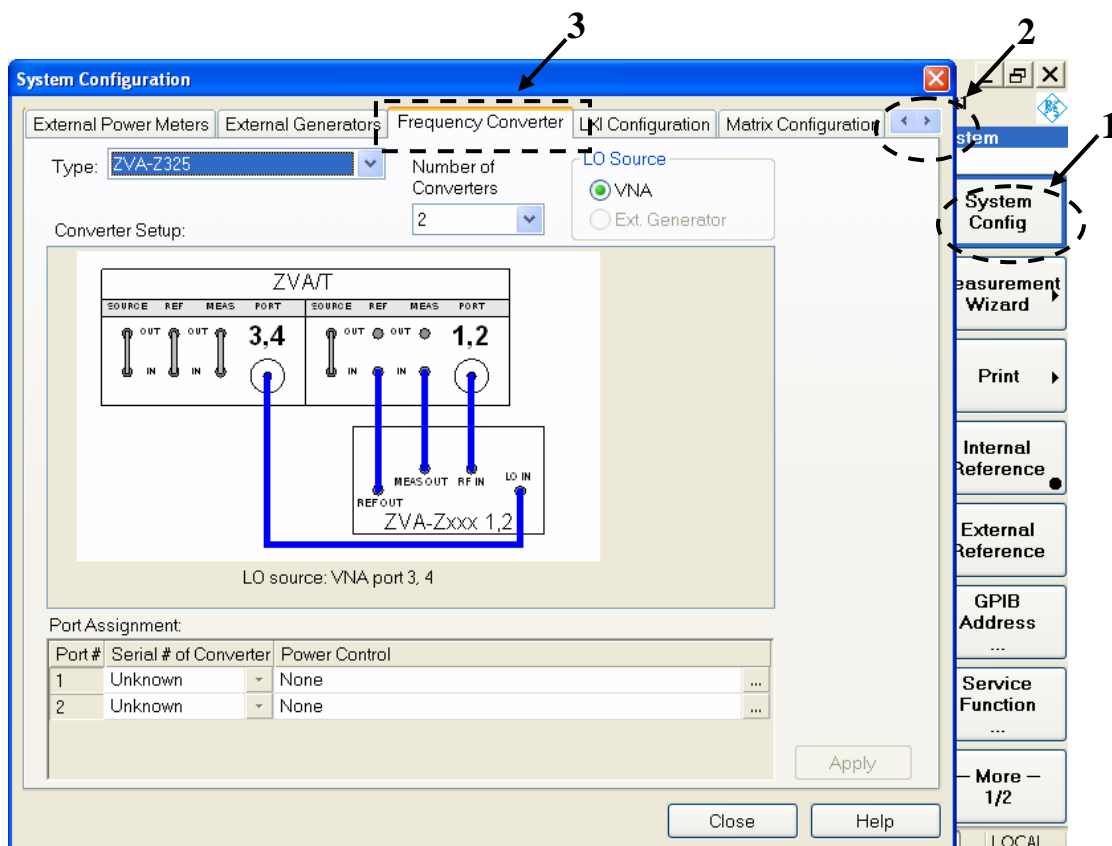

Figure 2 – System Configuration Setup Table
1. Press “**SYSTEM CONFIG**” hard key on the front panel under **SYSTEM** selection section and press “System Config” soft key to access the System Configuration setup table (Figure 2).